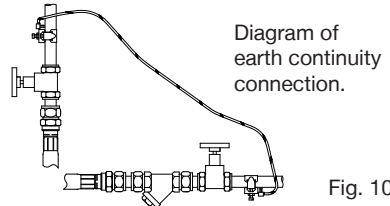

Fig. 10
4.16 **Adjacent pipes:** Adjacent suction and delivery pipes should be fitted with earthing clamps in accordance with current regulations (Fig. 10).